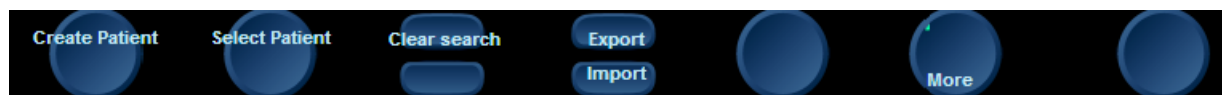

Figure 8-147 Soft-key Import Button
- 4.) Click the **Import** soft-key at the bottom of the screen - see Figure 8-147.